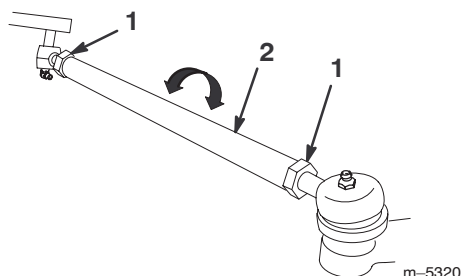

Figure 35
3. If the measurement does not fall within the specified range (refer to the dimensions and parameters at the beginning of this procedure), loosen the jam nuts at both ends of the tie rods (Fig. 35).